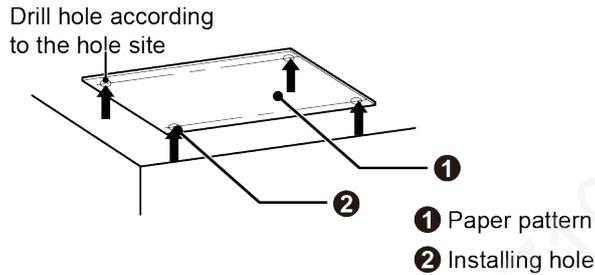
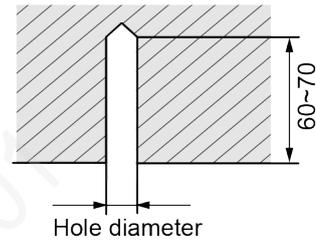

Fig.4.1.3
Fig.4.1.4
1) Stick the reference cardboard on the installation position; drill 4 holes according to the hole site on the cardboard as shown in Fig.4.1.3; diameter of drilling hole is according to the diameter of expansion bolt and the depth is 60-70mm, as shown in Fig.4.1.4.